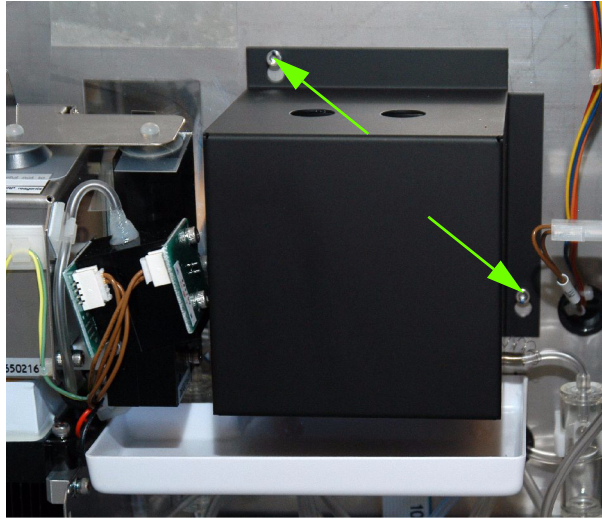

Fig.5: Cover screws
- ◆ Remove chamber cover (See “Fig.5: Cover screws, page 4”).